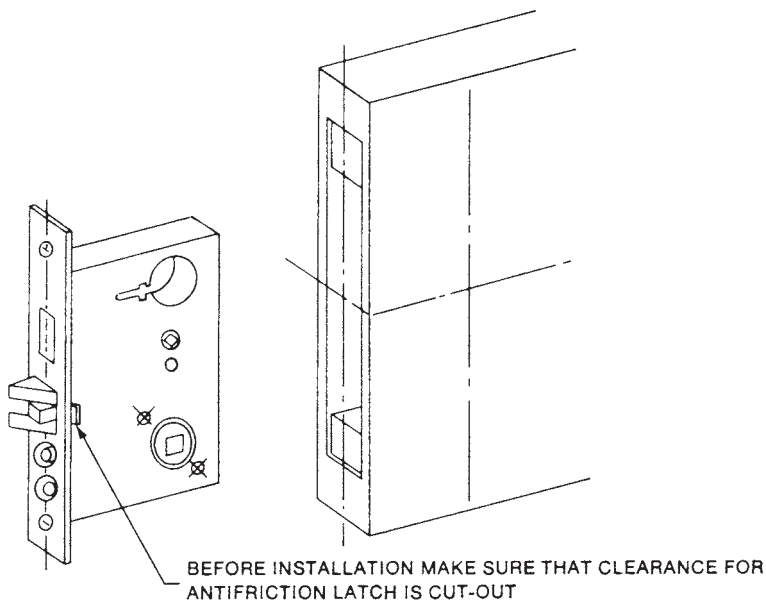
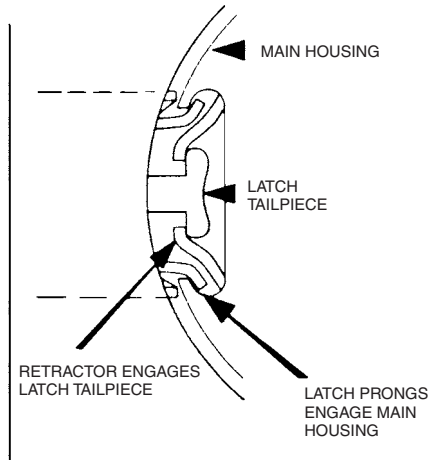

Figure 19.47 Electrified key-in-knob lock installation, Step 5.
Figure 19.48 Electrified key-in-knob lock installation, Step 5.
5. Next, install the main unit (Fig. 19.47). The main housing must engage with the latch prongs and retractor with the latch tailpiece as shown in Fig. 19.48.